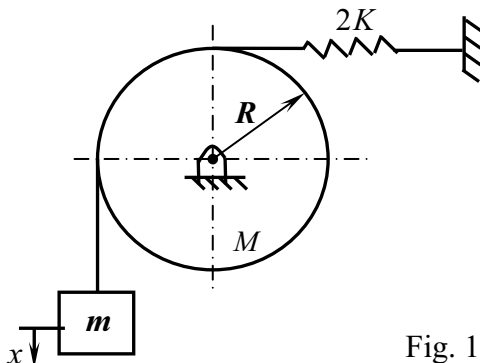

Fig. 1
- 4 Determine the natural frequency of the system shown in Fig. 1 using (i) Newton's second law method (ii) Energy method.